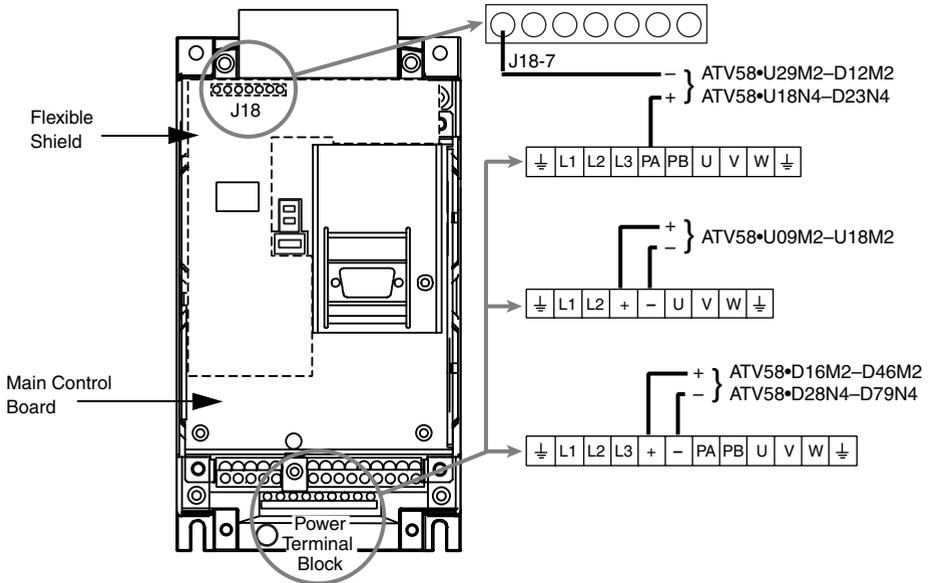

Figure 1: DC Bus Voltage Measurement Point Locations (ATV58HU09M2 shown)
The DC bus voltage level is determined by monitoring the (+) and (–) measurement points. Their locations vary by drive controller model number as listed in Table 1 and shown in Figure 1. The drive controller model number is listed on the nameplate.
3. Read the model number of the drive controller from the nameplate and identify the corresponding (+) and (–) measurement points from Table 1 and Figure 1.